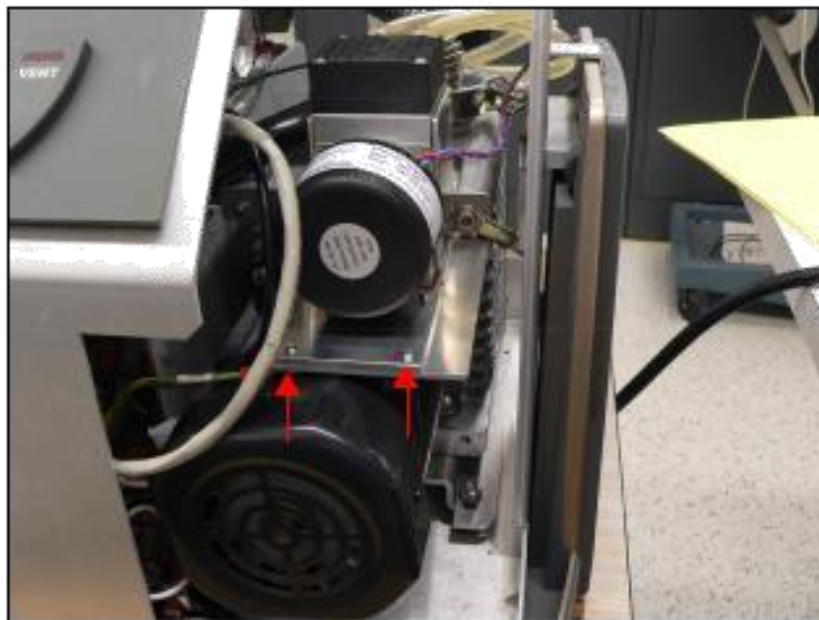

Figure 14: Pump to Plate Connections
7. Remove the diaphragm pump assembly, turn it over and unscrew the four M2 screw holding the pump to the plate (Figure 14: Pump to Plate Connections - two shown).